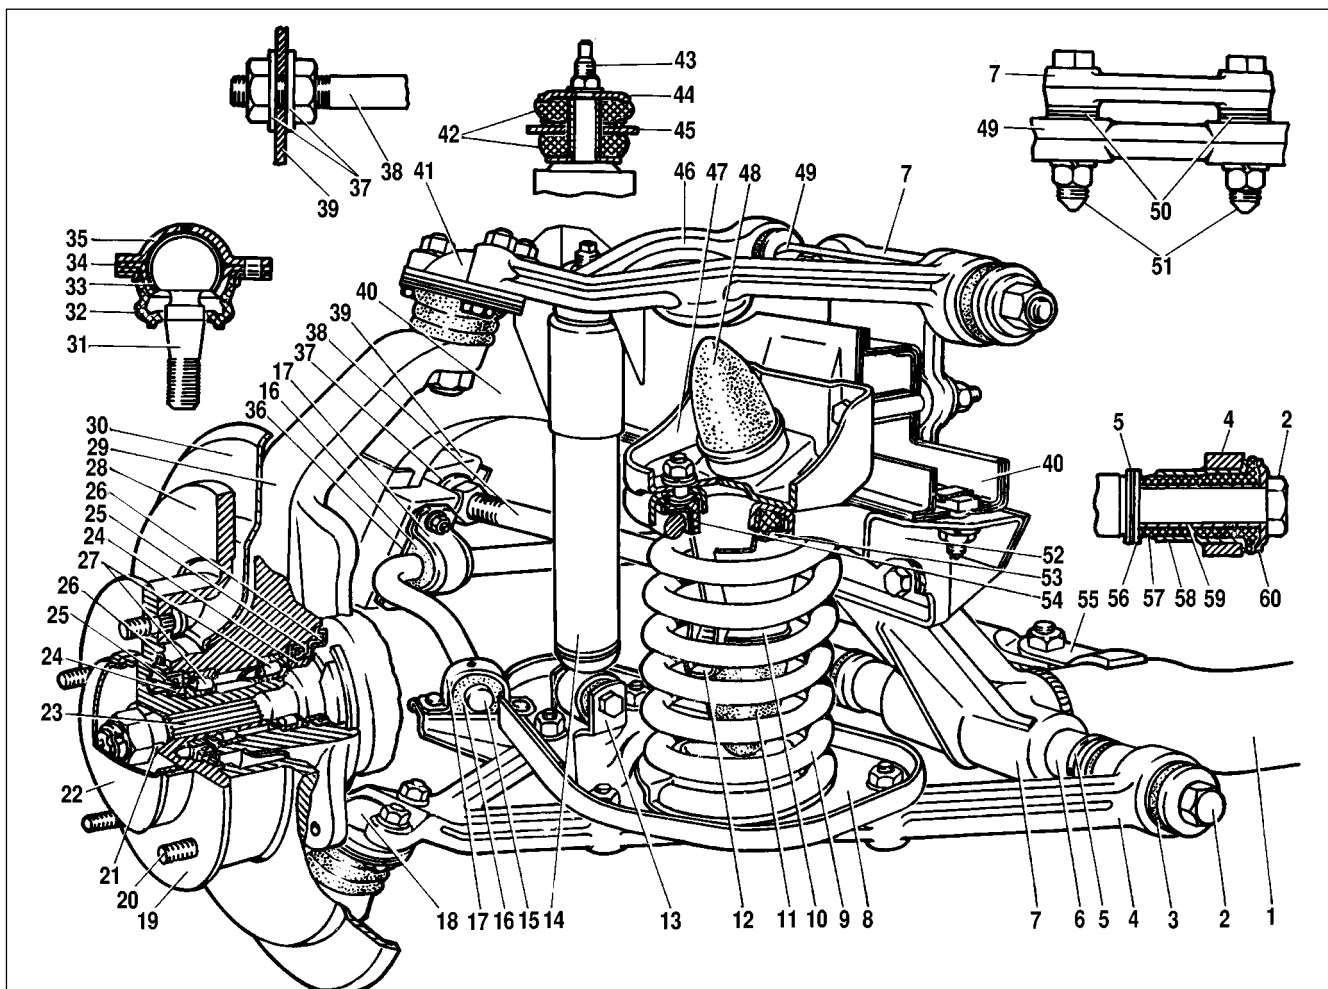

Fig. 4-1. Front suspension:
The design of the front suspension is shown on fig. 4-1.
Caster angle. If the check will show that the angle size does not correspond to the above data, it is necessary to change the quantity of adjusting washers 50 (see fig. 4-1) between the upper arm shaft and the crossmember arm (see tab. 4-2).
Front wheel camber. If the camber angle differs from normal, it should be adjusted by changing the amount of washers 50 (see fig. 4-1) between the upper arm shaft and crossmember bracket.
- use tool 67.7823.9514 to remove the wheel hub cap, undo the adjusting nut and remove bush 21 (see fig. 4-1);